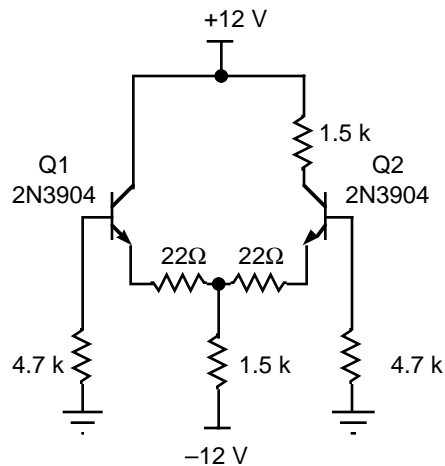

Fig 8.1
a) Calculate the tail current of the circuit in Fig. 8.1 as well as the base currents in each transistor. The $22\ \Omega$ swamping resistors are used to improve the match between the discrete transistors. Use the h_{FE} s of your transistors or assume a value of 200 if you haven't kept them. Build the differential amplifier shown in Fig. 8.1 and compare the measured tail and base currents with the calculated values.